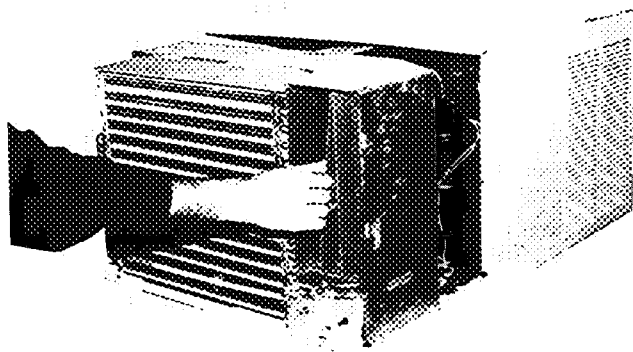

Fig. 18 – Disengaging Vertical Air Deflector
7. Carefully disengage one of the vertical air deflectors, allowing access to assist in removing air handling system assembly. See Fig. 18.